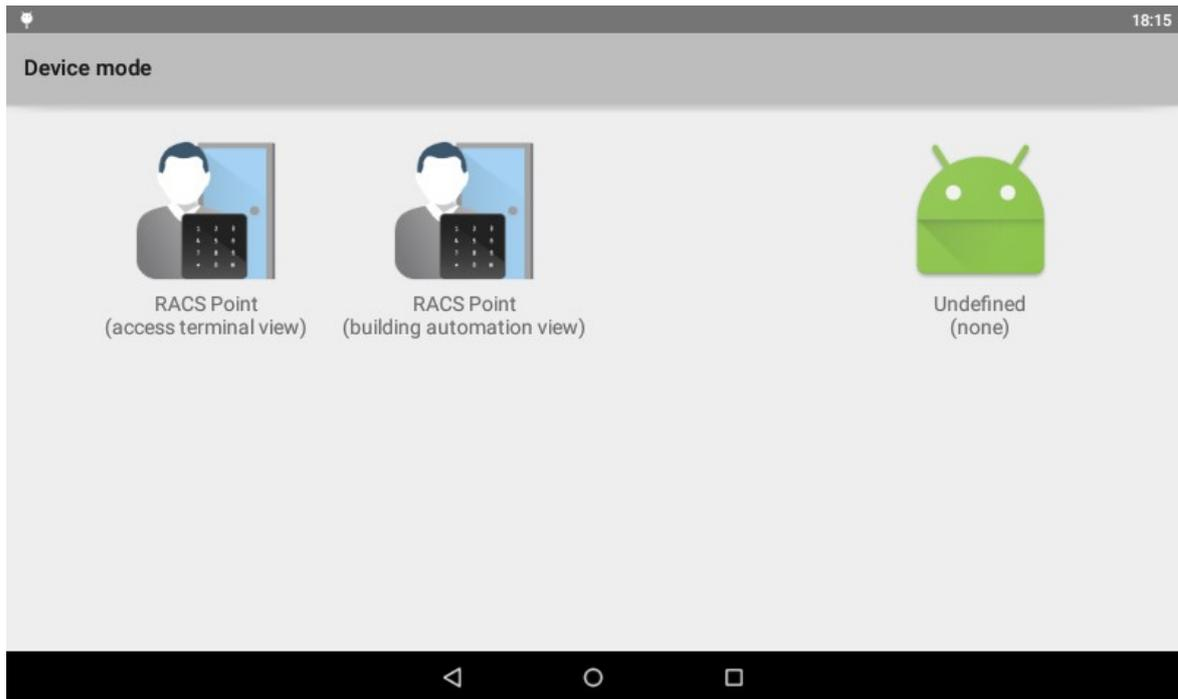

Fig. 1 Device mode selection
*Configuration wizard* app is displayed automatically when the panel is started for the first time. Select language version and accept license agreement in order to start selection screen with available device modes (fig. 1). The panel can work as RACS 5 terminal (*RACSPoint* app) or without any startup app (Undefined). The device mode can be selected or changed later using *Settings MD70* app.